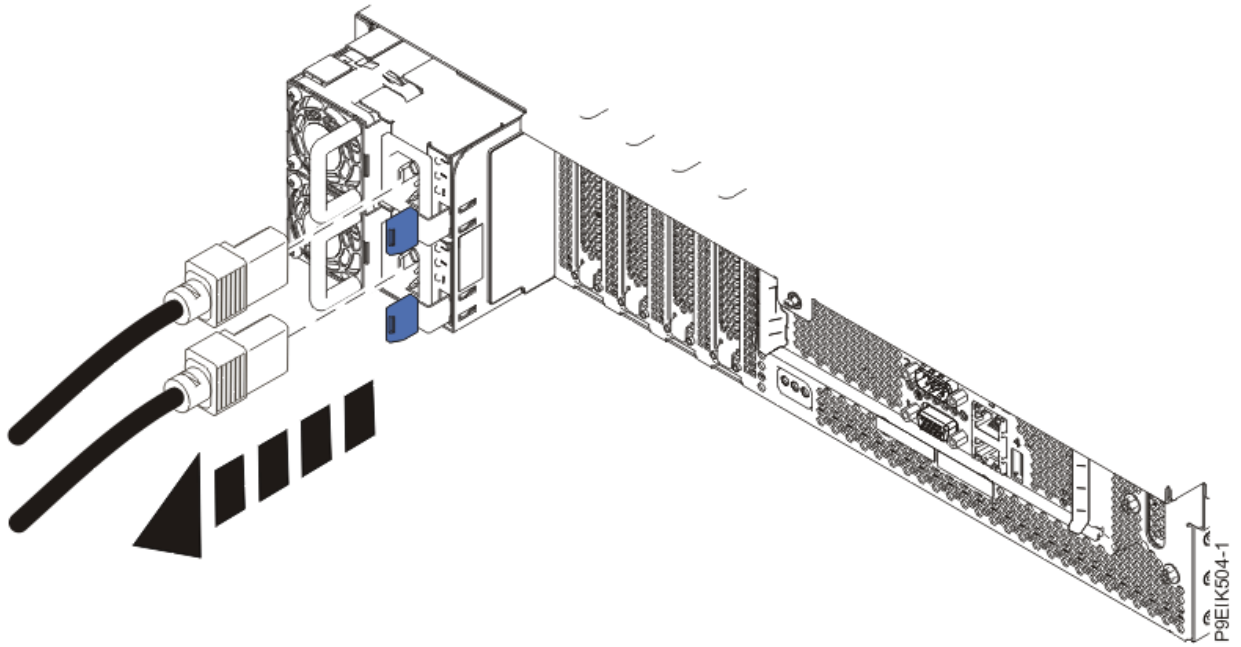

Figure 188. Removing the power cords from the system
4. Disconnect the power cords from the system unit as shown in Figure 188 on page 217.